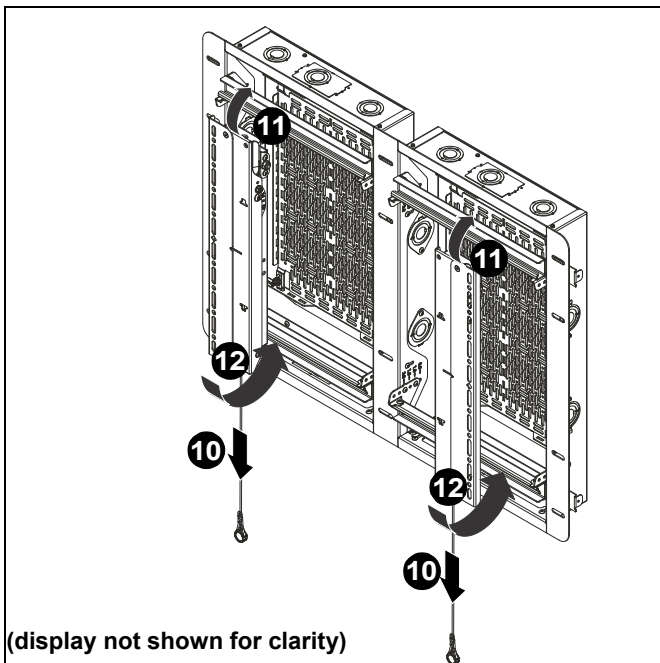

Figure 21
10. Lower home latch release cords on each interface bracket (A and B). (See Figure 21)
11. Raise display with attached interface brackets and hook top of brackets into top of mount. (See Figure 21)
12. Slide interface rail hooks under lower rail. (See Figure 21)